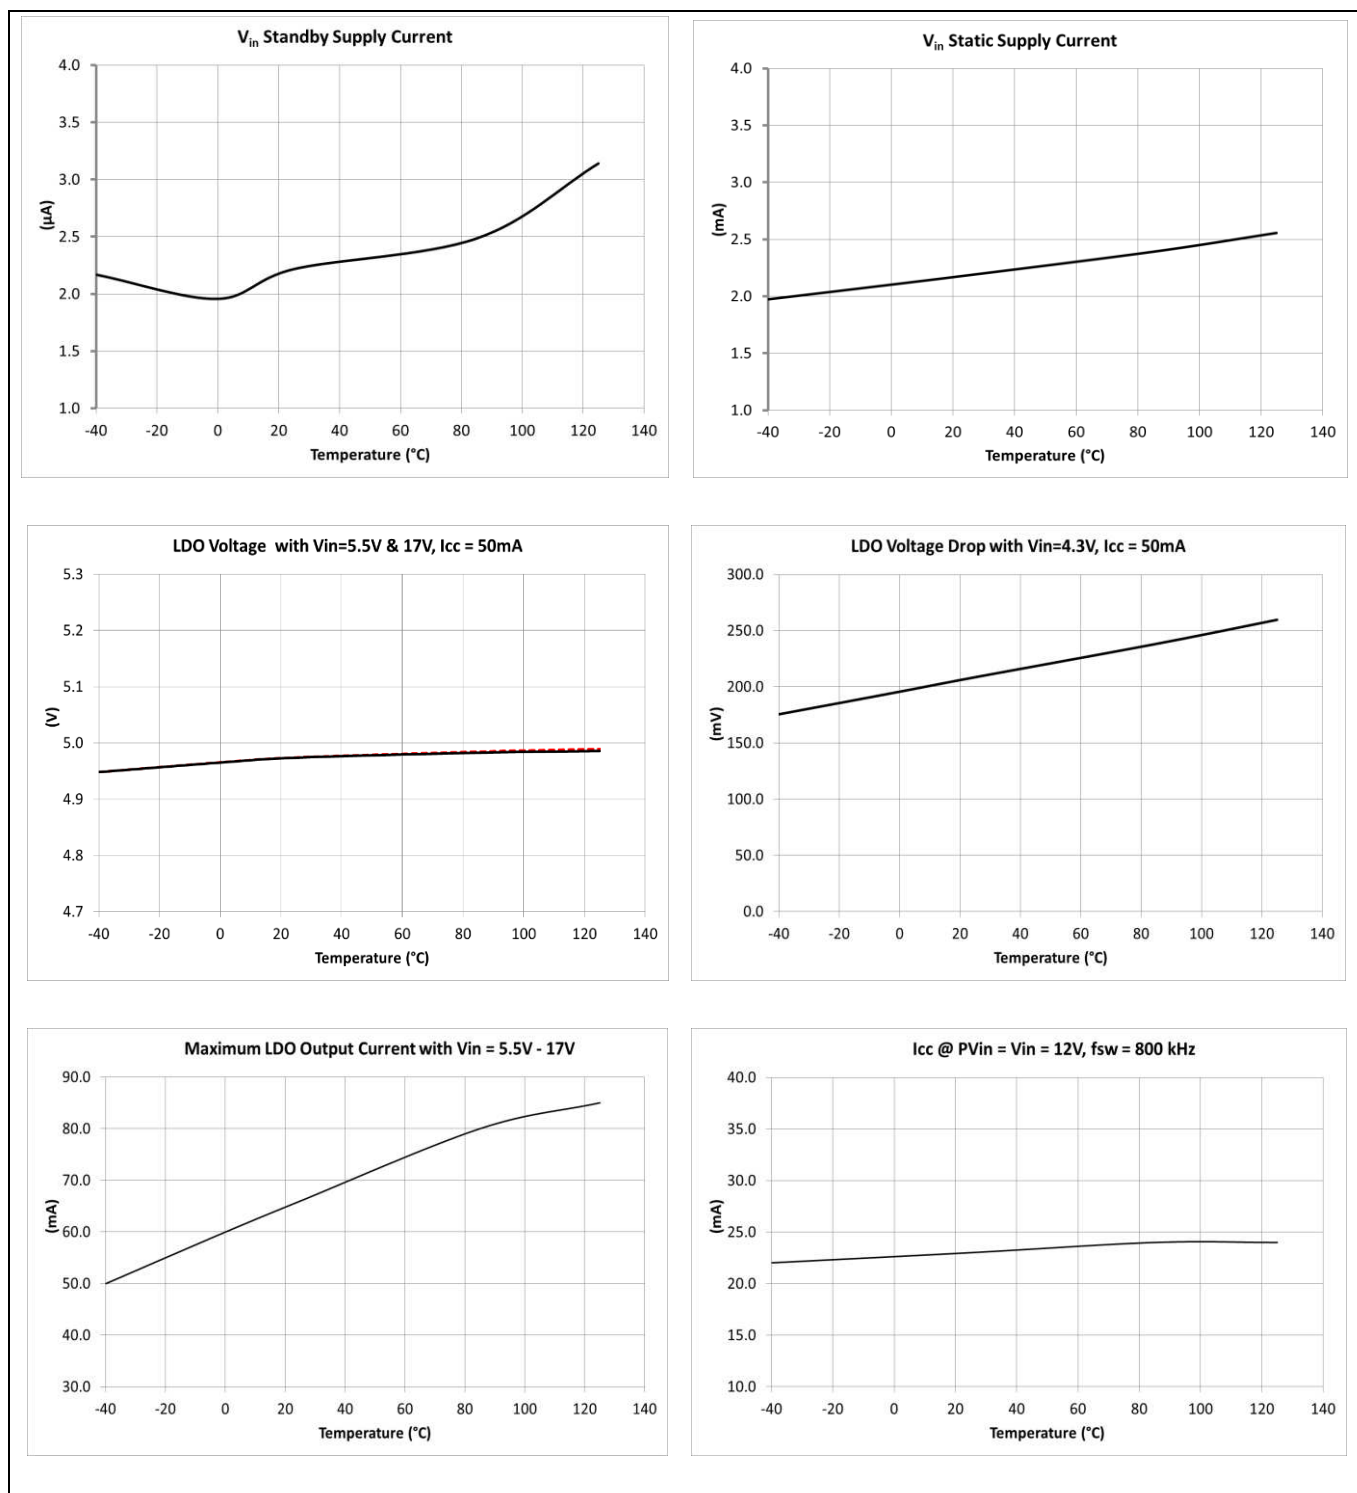

Figure 6 Typical operating characteristics (set 1 of 3)
- When using the internal LDO with 5.5 V ≤ Vin ≤ 17 V, it is recommended to check the required VCC bias current for the operation above 1.6 MHz, to ensure that it does not exceed the LDO output current capability as shown in Figure 6. With the increase of fsw, the resulting ICC is also increased mainly due to the increase of the gate charge that is proportional to fsw. In Figure 6, the typical ICC at PVin = Vin = 12 V and fsw = 800 kHz has been provided, which can be used to estimate the ICC at other fsw.